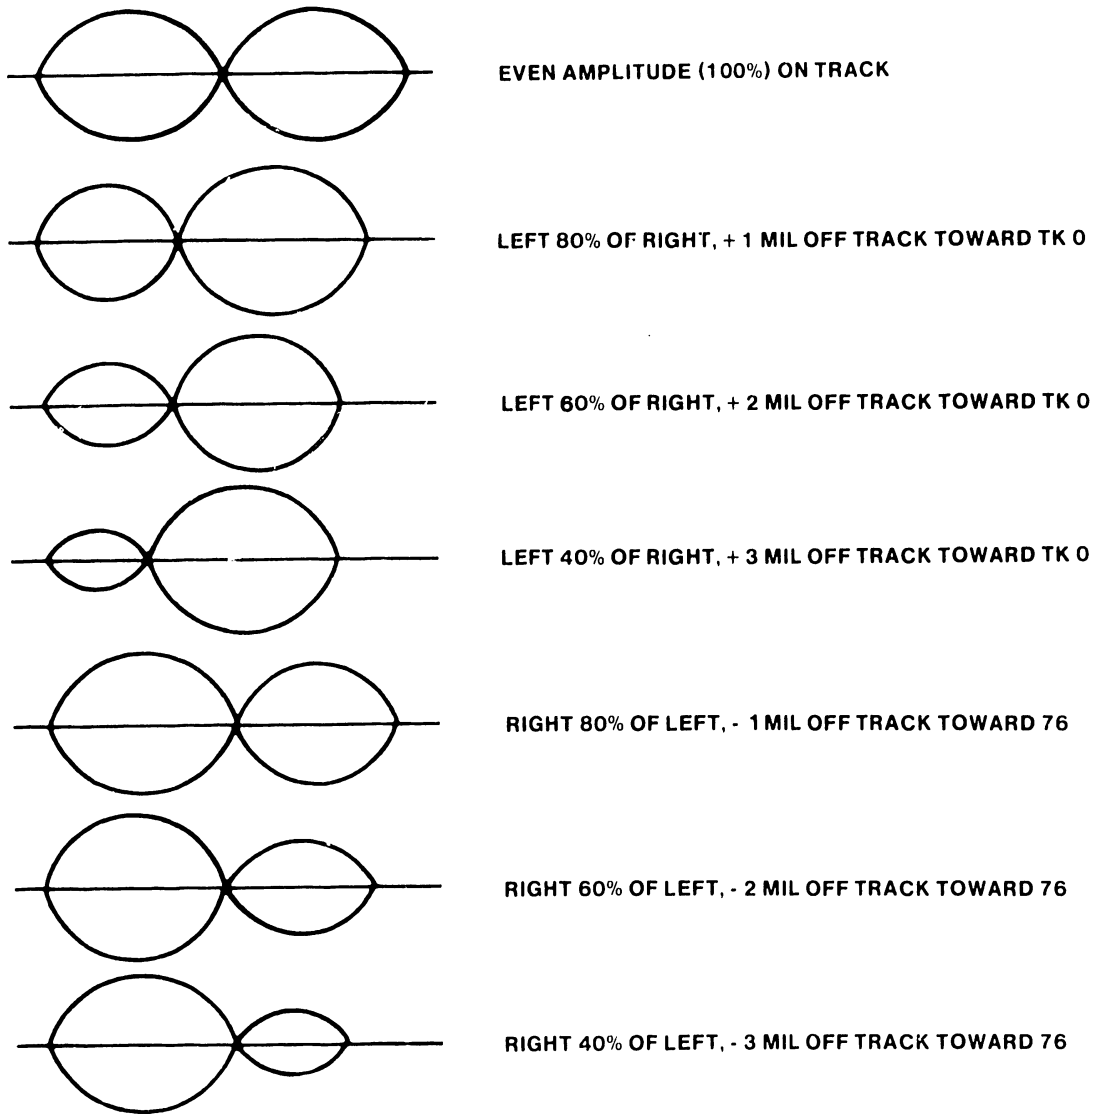

Figure 5-4 Head Radial Alignment Waveform and Interpretation
4. Observe the oscilloscope display and compare it with Figure 5-4. This display represents the exact location of the read/write head on track 38. The amplitude of the lobes must be within 70% of each other. If this is not the case, adjust according to steps 5 and 6.